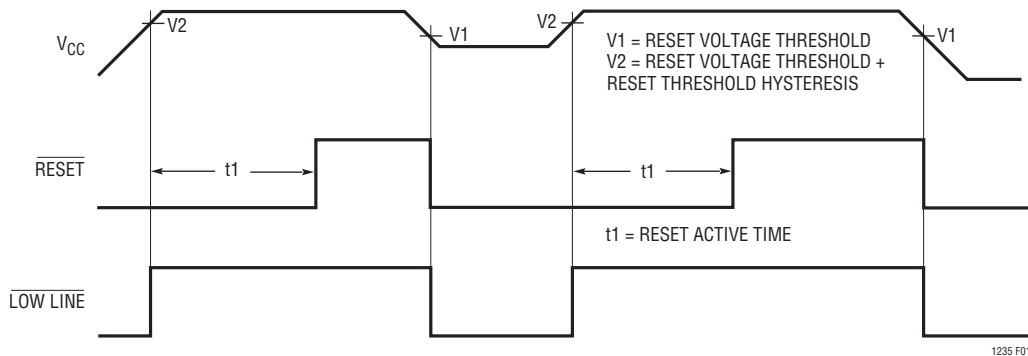

Figure 1. Reset Active Time
**LOW LINE (Pin 6):** Logic output from comparator C1. LOW LINE indicates a low line condition at the  $V_{CC}$  input. When  $V_{CC}$  falls below the reset voltage threshold (4.65V typically), LOW LINE goes low. As soon as  $V_{CC}$  rises above the reset voltage threshold, LOW LINE returns high (see Figure 1). LOW LINE goes low when  $V_{CC}$  drops below  $V_{BATT}$  (see Table 1).
The LTC1235 uses a bandgap voltage reference and a precision voltage comparator C1 to monitor the 5V supply input on  $V_{CC}$  (see Block Diagram). When  $V_{CC}$  falls below the reset voltage threshold, the reset outputs are forced to active states. The reset voltage threshold accounts for a 5% variation on  $V_{CC}$ , so the reset outputs become active when  $V_{CC}$  falls below 4.75V (4.65V typical). On power-up, the reset signals are held active states for a minimum of 140ms after the reset voltage threshold is reached to allow the power supply and microprocessor to stabilize. On power-down, the  $\overline{\text{RESET}}$  signal remains active low even with  $V_{CC}$  as low as 1V. This capability helps hold the microprocessor in stable shutdown condition. Figure 1 shows the timing diagram of the  $\overline{\text{RESET}}$  signal.